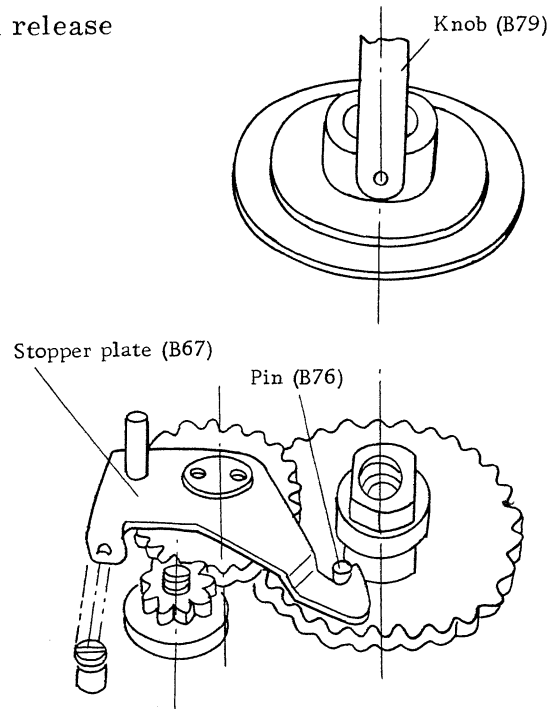

Fig. 5
Remove the installation screws (B100, 3 each), and remove the film advance mechanism unit (D1A). (Fig. 5)
Remove the installation screws (B109, 5 each), and remove the shutter set mechanism unit (D45A). (Fig. 5)
Remove the installation screws (B100, 3 each), and remove the film indicator (M1A). (Fig. 5)
(Fig. 5)
- b. Detach the bottom plate (E3), and make sure that the hook on the stopper plate (B67) correctly hooks the pin (B76). When hooking is insufficient, properly bend the hook with a pair of pliers so that it hooks the pin securely. (Fig. 5)